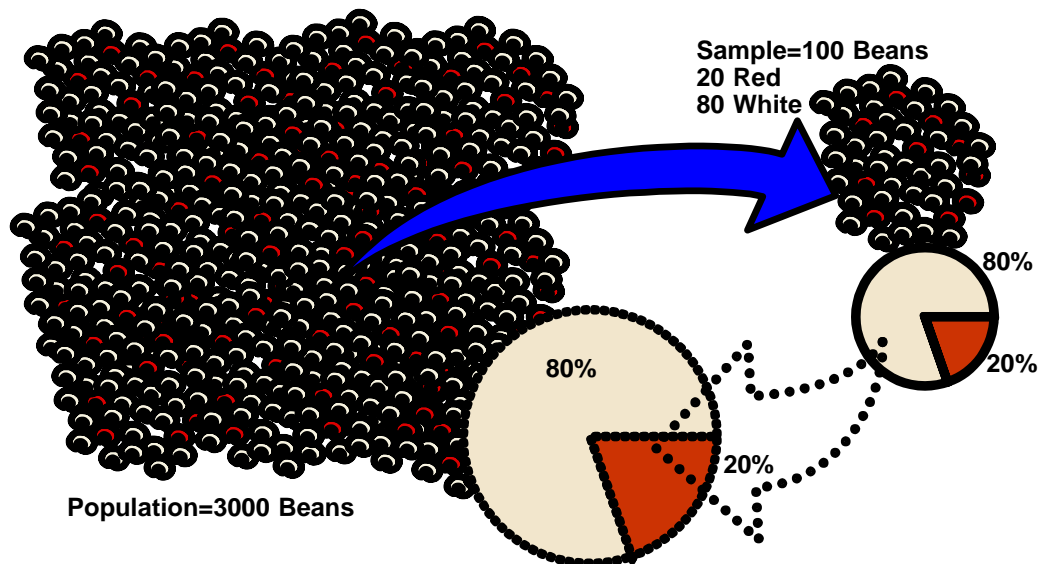

Figure 2 Statistical sampling
Cycle Counting uses the principle of *statistical inference*, just as in opinion polling. In figure 2, we take a random sample of 100 beans out of the "population" of 3000 beans. If 20% of those beans are red, it infers that 20% (600) of the population is also red.